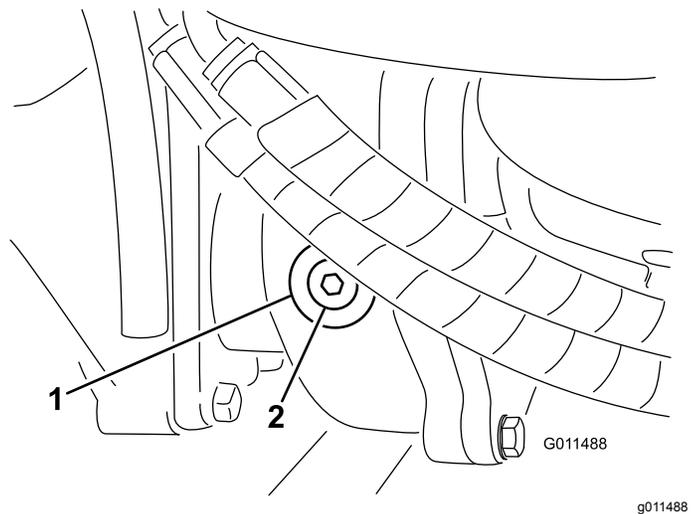

Figure 19
2. Remove the check/fill plug from the left side of the gear box and ensure that lubricant is up to the bottom of the hole (**Figure 19**).